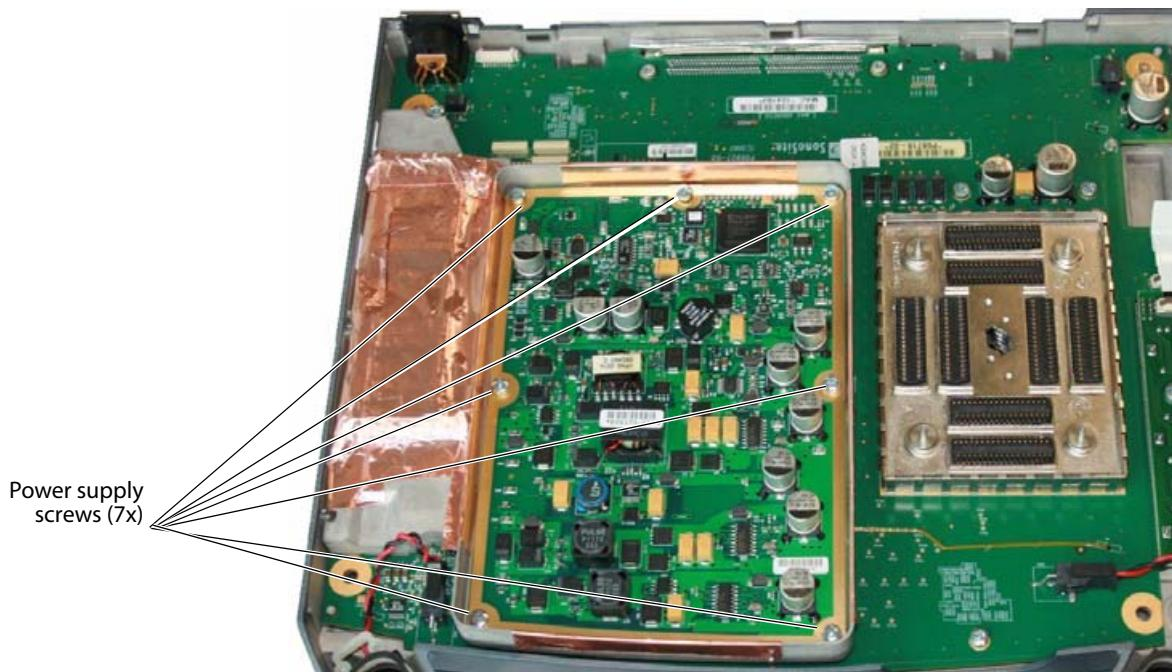

Figure 4.10 Power Supply Screws
- 2 Remove the 7 screws that hold down the power supply PCB per Figure 4.10.